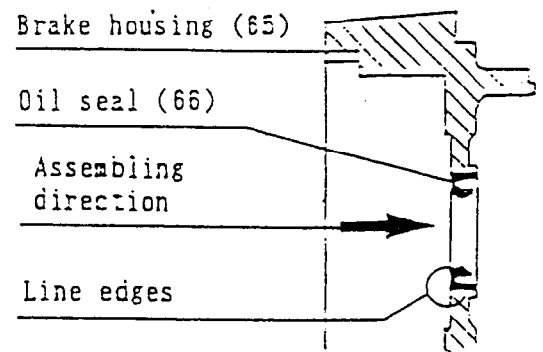

Fig. 12
- ② Be careful not to put oil, etc. on the lining portion of brake disc (68).
- ③ Forcibly insert oil seal (66) and line edges of oil seal and brake housing (65). (see Fig. 12)
- ④ Carefully mount the brake housing without flawing the oil seal and sequentially tighten cap screws (67) by 1/6 turn.
- ⑤ Set up X-rings (73) and (76) to the corresponding part, respectively.
- ⑥ Insert pressure plate (69) and cylinder cover (72) to the brake housing and tighten bolt (78) through brake piston (75) at 8.5 ~ 9.3 kgf·m torque.
- ⑦ Uniformly withdraw the pressure plate and the brake piston.
- ⑧ Insert the brake piston to brake cover (80).